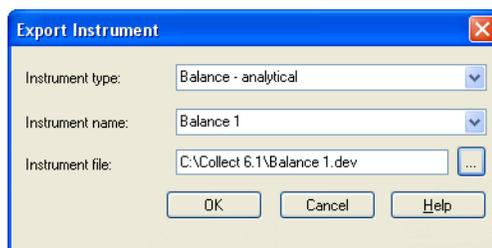

Figure 3.20: Export Instrument
2. An [Export Instrument] dialog box similar to the example shown in Figure 3.20 will appear.